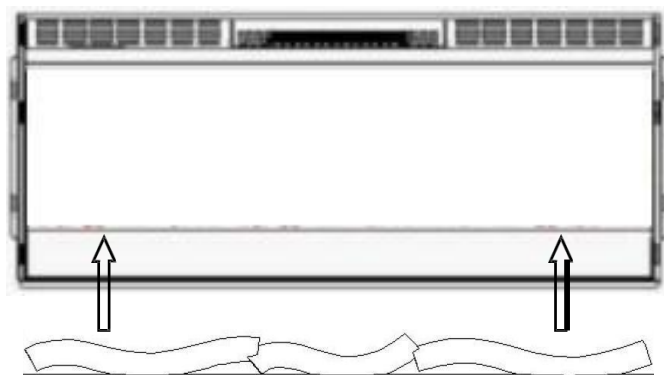

Figure 1.
- C. If you want your fire with the log effect, remove the log effect from its packaging and reverse the order of steps A and B, completing the fuel-bed installation, see Figure 1. If you prefer the pebble effect, remove the log effect from the fire and place the media tray holder (I) onto the bottom tray. Next, carefully place the pebbles (H) onto the bottom tray as illustrated below. Apply an even layer from side to side, see Figure 2 and Figure 3. Reverse the order of steps A and B, completing the fuel-bed installation.